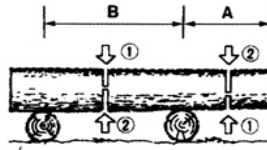

Fig. 14
- **TRUNK SUSPENDED FROM THE GROUND:** In zone "A" sawing from the bottom for a third and finish sawing from top to bottom. In zone "B" saw from above for a third and finish sawing from below (Fig. 14).